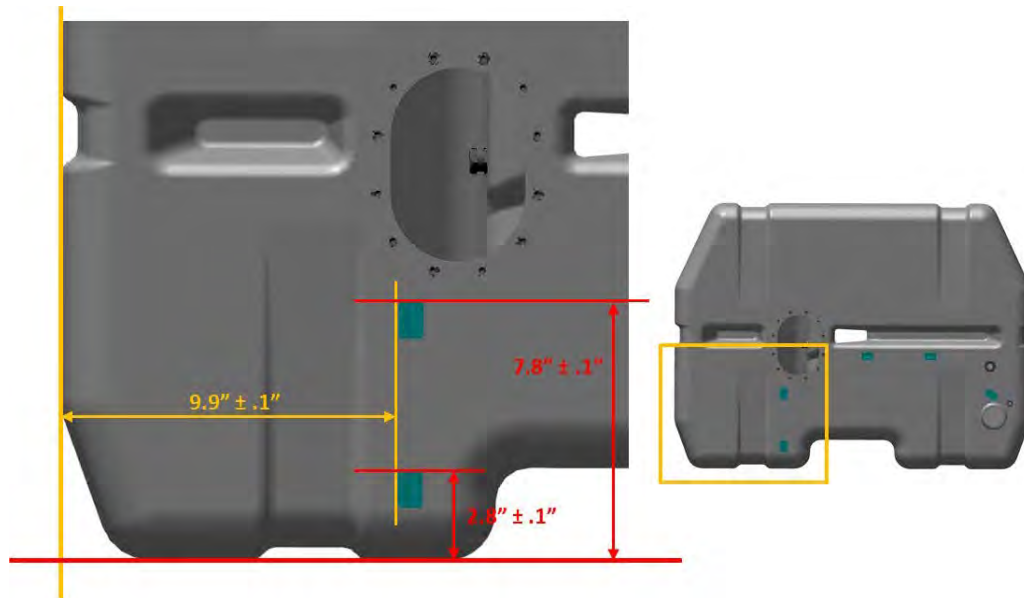
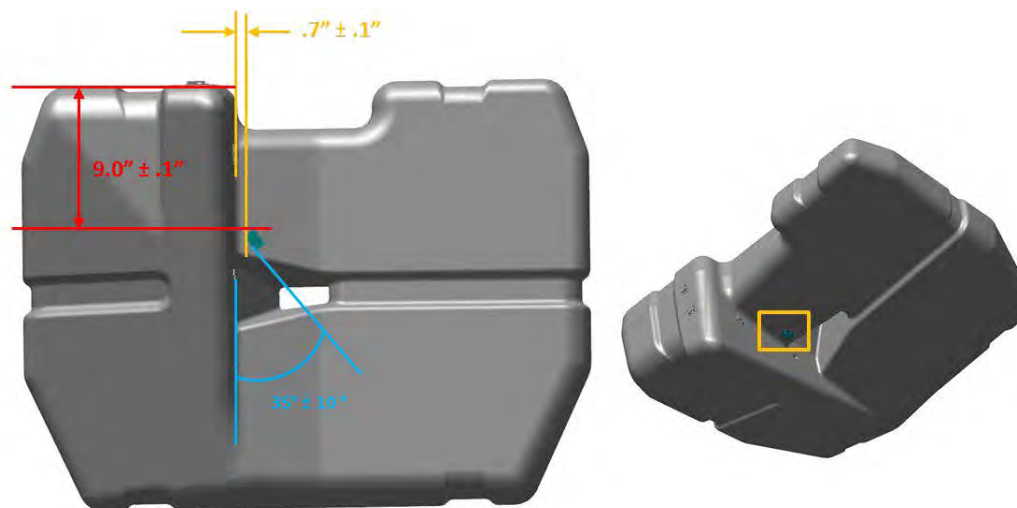

FIGURE 11-10
FIGURE 11-14
- a. Mark the location and orientation of the CABLE TIE ANCHOR MOUNTs as shown in Figure 11-10-Figure 11-14.